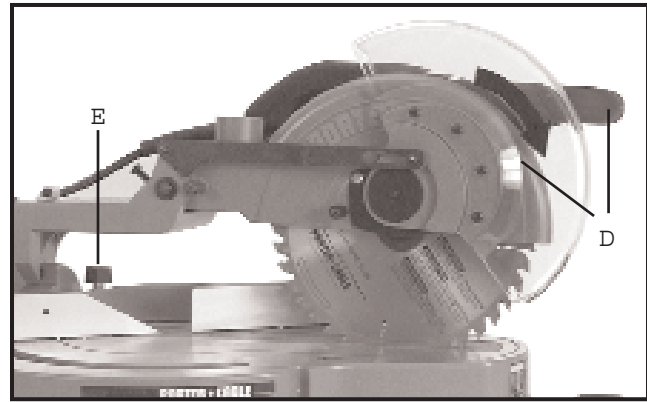
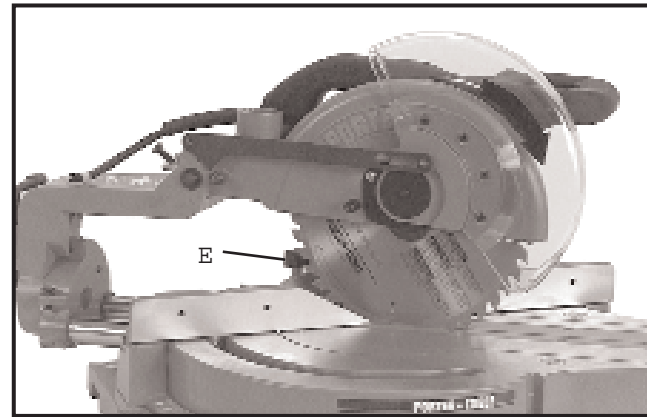

Fig. 5
Fig. 6
3. To move the cuttinghead (D) Fig. 5, to the rear position, loosen lock knob (E) and push cuttinghead (D) to the rear position. Then tighten lock knob (E) Fig. 6.
4. Fig. 6, illustrates the cuttinghead locked in the rear position.